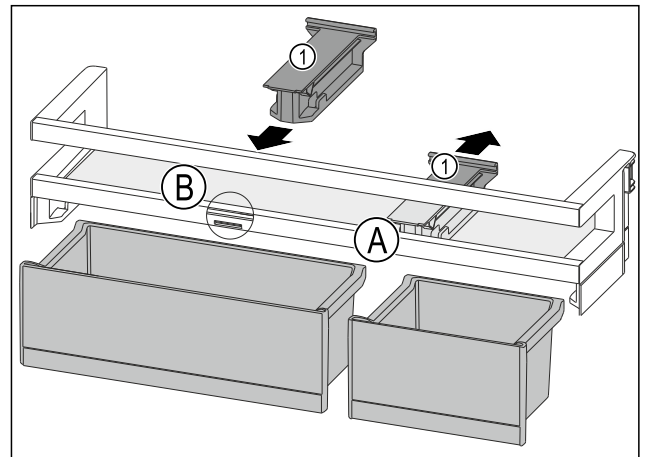

Fig. 119
- Pull off the retaining part Fig. 119 (1) in position Fig. 119 (A) downward.
- Insert the retaining part Fig. 119 (1) in position Fig. 119 (B).